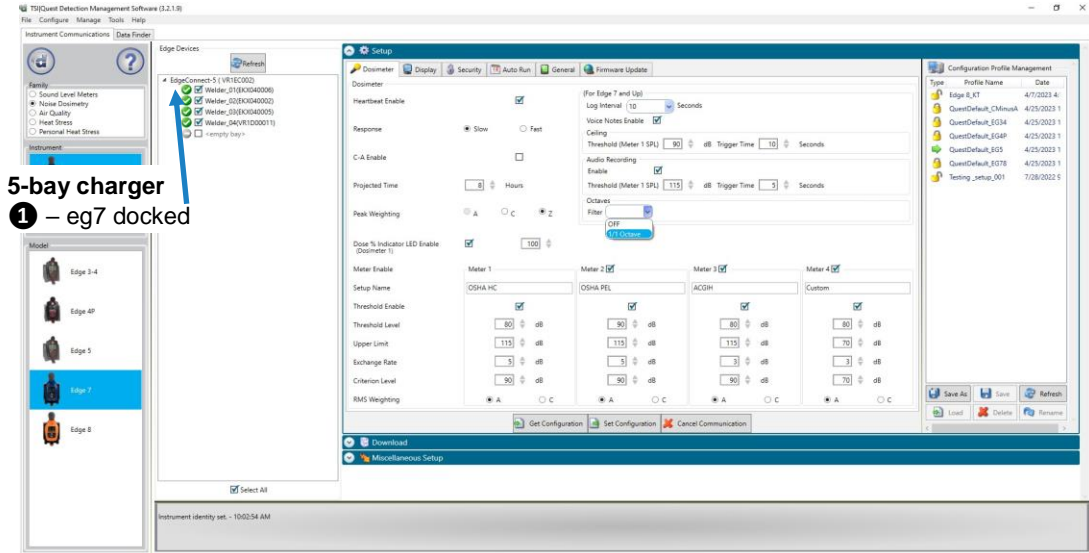

Figure 1-3: Parameter setup screen for EG7
- Bay chargers:** If you are using a 5-bay charger, you may have various models (EG7 and EG8) docked at once using the EdgeConnect5 as indicated in Figure 1-3.